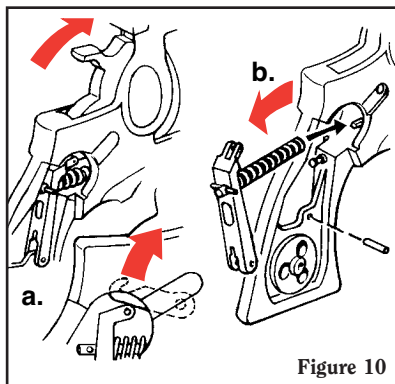
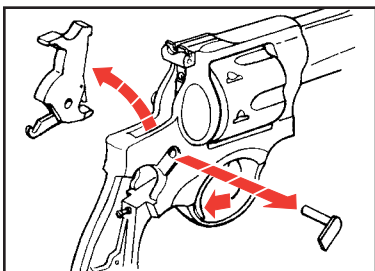

Figure 10
Figure 11
4. With thumb on hammer spur, squeeze trigger allowing hammer to go fully forward. Remove the hammer pivot assembly. With the gun muzzle pointing down, slowly lift the hammer upward and out of the frame (See Figure 11, p. 21). It may be necessary to move the mainspring lever forward in order to cause the hammer link hook to detach from the mainspring lever (See Figure 10 a.). If careful manipulation of the hammer and trigger does not disengage the hook, disengage it with the tip of a jeweler's screwdriver or similar device when the hook is in a near-off position.
5. Push the lever pivot pin out with a small punch or nail and remove the mainspring lever from the frame with mainspring and strut intact. Removal can best be accomplished by twisting the lever slightly as the assembly is drawn from the frame toward the rear (See Figure 10 b.). **CAUTION:** Do not remove disassembly pin at this point! Doing so will permit the mainspring to fly off its strut with great force and may cause injury. The pin is to be removed only after the assembly is correctly installed in the revolver during reassembly.
The information below applies only to those revolvers in which the Hammer Link is assembled to the hammer with the link hook pointing downward, as illustrated in Figure 10 below.